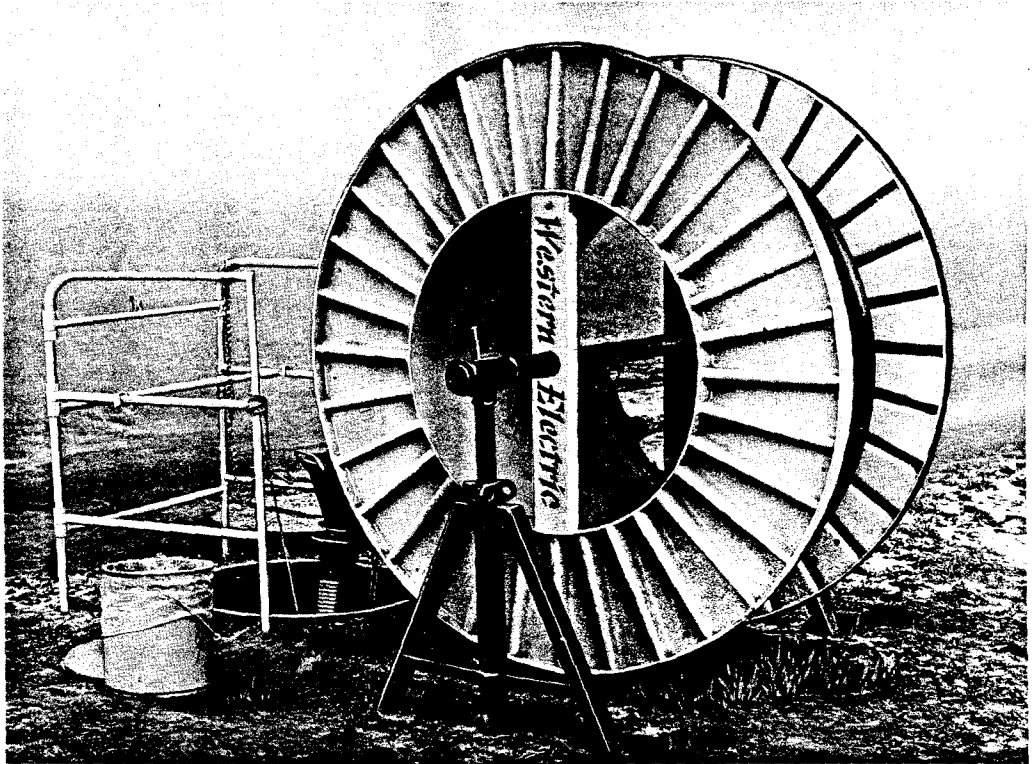

Fig. 2 — B Cable Reel Jacks at a Typical Manhole Operation
4.03 The use of B Cable Reel Jacks at a typical manhole operation is shown in Fig. 2.